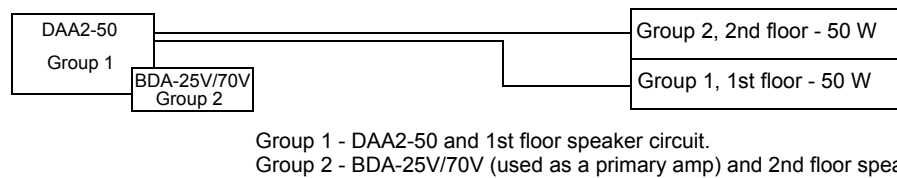

Figure D.3 DAA2 - One Amplifier, One Speaker Circuit per Group, BDA
3. Figure D.3 shows a DAA2 with a BDA used as a primary amplifier. Each amplifier is in a separate group with a speaker circuit. Each amplifier supports a 50 watt load, and each group can play one message at a time. The DAA2's battery charger will be disabled automatically.